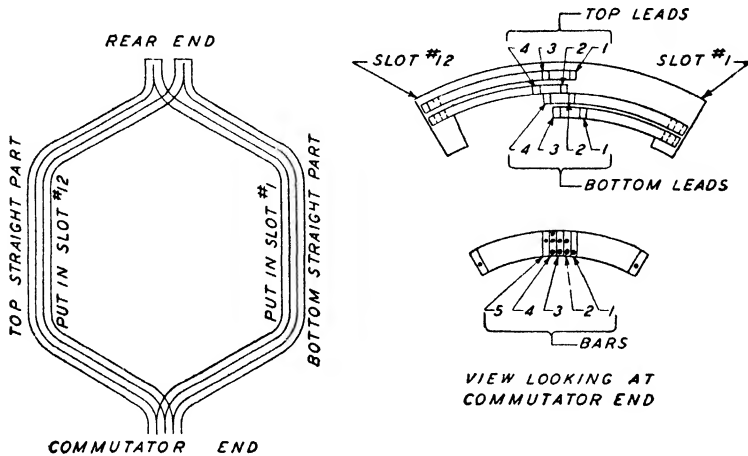

Fig 7 Main Generator Wiring Diagram
- Armature Winding Diagram (Fig. 7)